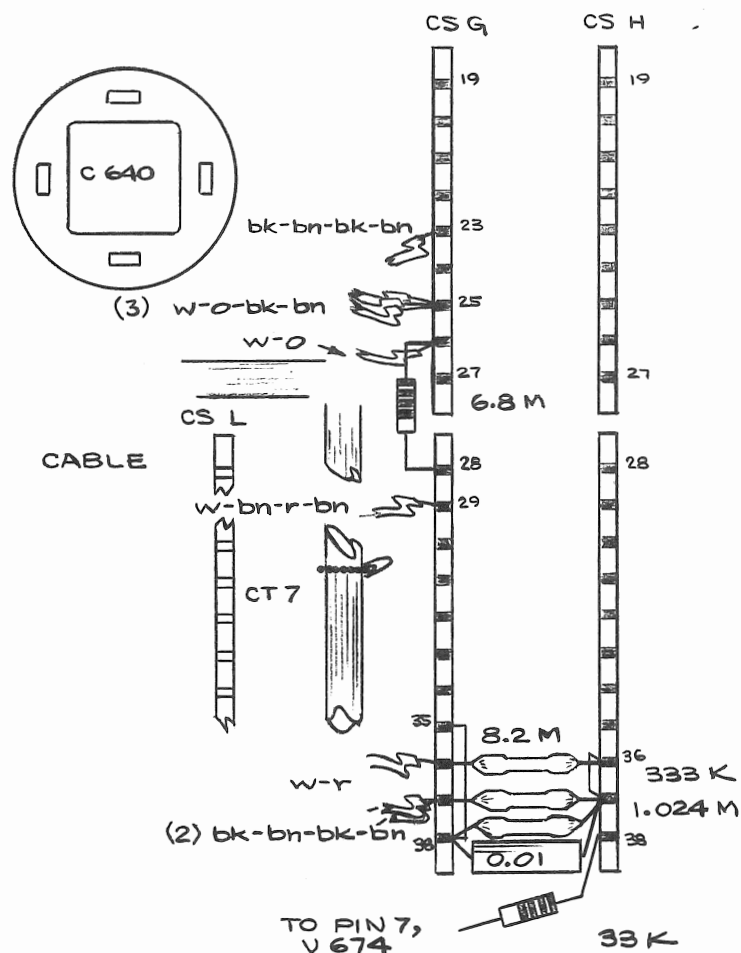

FIG. 5
- ( ) 2. Remove the bare wire between CSG-25 and CSG-26 (see Fig. 5 for ceramic strip location).
3. Install the following components and wires, as indicated in Fig. 5:
1. Remove the following components and wires (see Fig.5 for ceramic strip locations):
3. Install the following wires and components, as indicated in Fig. 5: